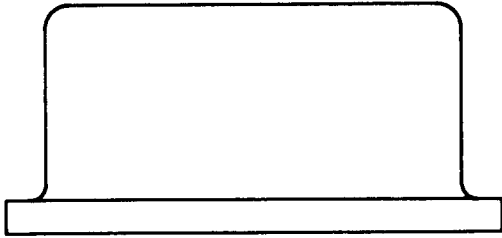

Fig. 15—213A Connector
**2.08 213A:** The 213A connector (A&M Only) (Fig. 15) consists of a metal strip designed to fit across the terminals of a 11C fuse. This connector is used with the 121A adapter in converting the 58AP and 98AA protectors in the field so that they may be used with the 11C fuses strapped out, where subscriber stations are connected to grounded metal sheath cables. This connector also forms a part of the 98AA protector.